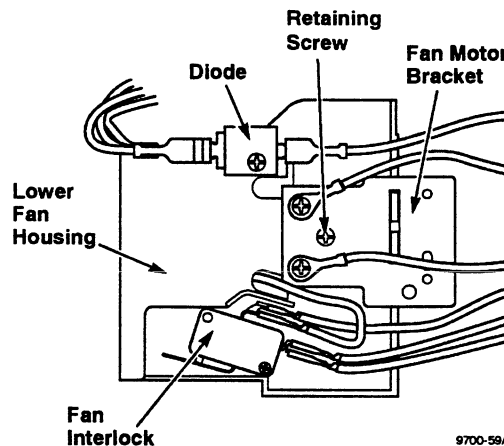

Figure 5-28. Bottom View – Fan Motor
7. Disconnect wires and unscrew diode retaining screw. When replacing diode, make sure orientation is correct. Figure 5-28.
3. Remove the piggyback wire connector from the Diode. Figure 5-28.
5. Remove the piggyback from On/Off Switch. Figure 5-28.